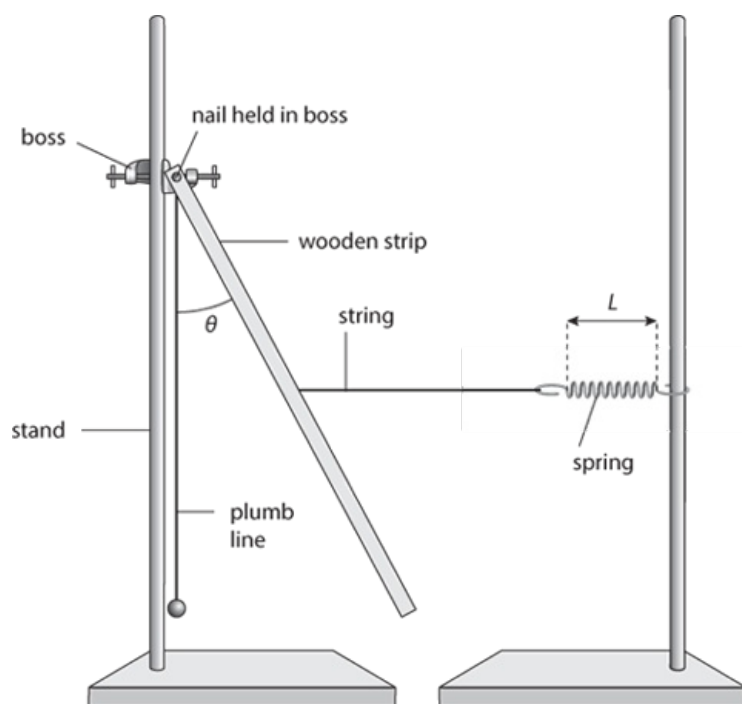

Figure 4.4: Wooden strip (pivoted) held at angle by string attached to spring.
- 1 Set up the apparatus as shown in Figure 4.4.